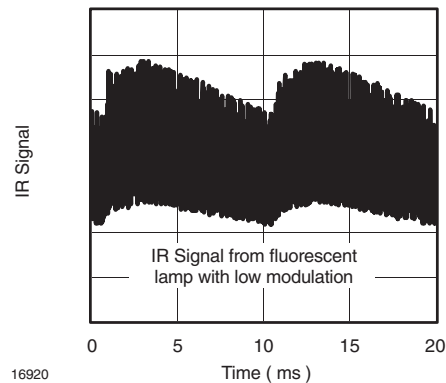

Figure 14. IR Signal from Fluorescent Lamp with low Modulation
- Signals from fluorescent lamps with electronic ballast with high or low modulation (see Figure 14 or 15).